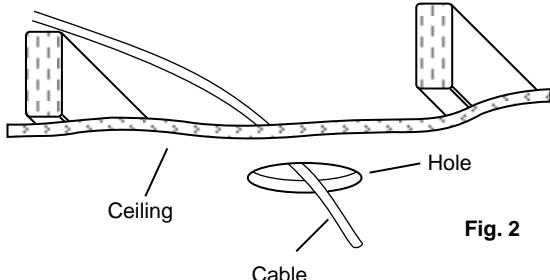

Fig. 2
3. Run non-metallic (NM) cable (also known as Romex) or an armored cable (also known as BX) from your circuit breaker or fuse panel to the hole, providing 6" (15,2 cm) to 8" (20,3 cm) of slack extending below the hole. Cable having up to 12 AWG wiring may be used. (Fig. 2) (**WARNING - Use cables having wires rated 90°C or more.**)